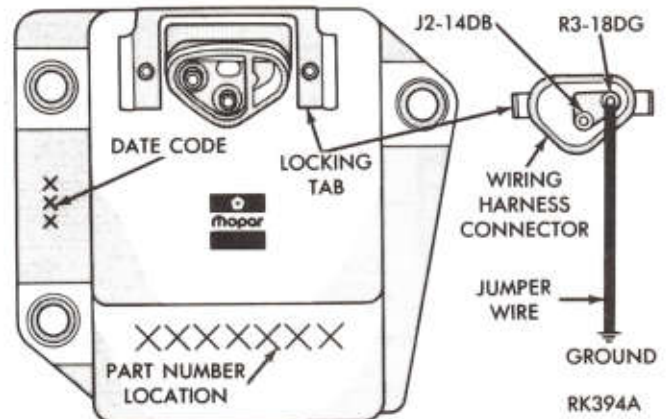

Fig. 6—Jumping Connector Green Wire to Ground
- (8) Connect a "Jumper" wire from wiring harness connector green wire (outside terminal) to ground (Fig. 6).